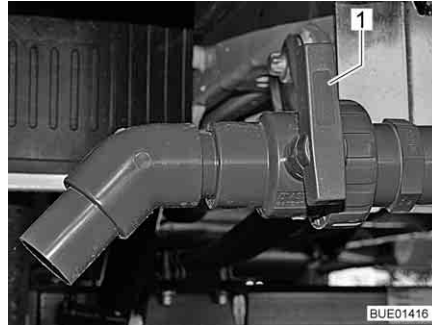

Fig. 199 Drain cock (outside)
- Turn the handle (Fig. 198,1 or Fig. 199,1) of the drain cock in flow direction. This drains the waste water through a spherical valve.